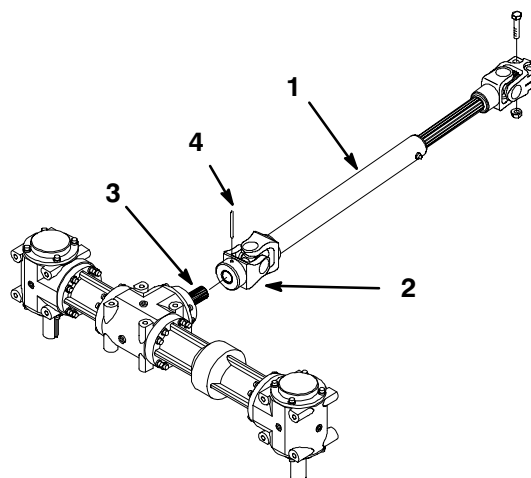

Figure 28
13. Drive roll pin through hole in PTO drive shaft to separate from gearbox shaft (Fig. 28).